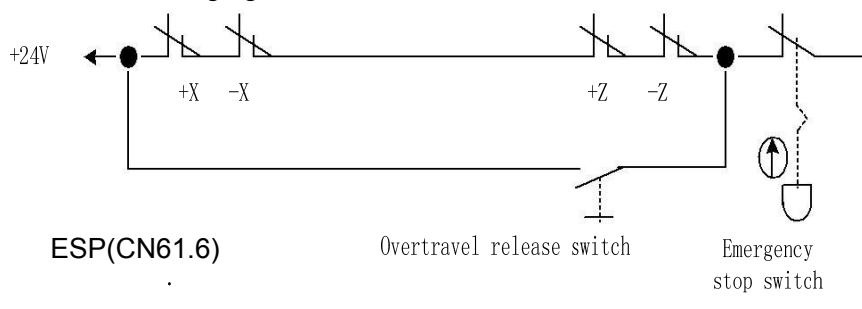

Fig. 2-34A Serial connection between the limit switch and the system emergency stop
1. The limit switch is serial connected with the system emergency stop, the connection method is shown as the following figure 2-34A: